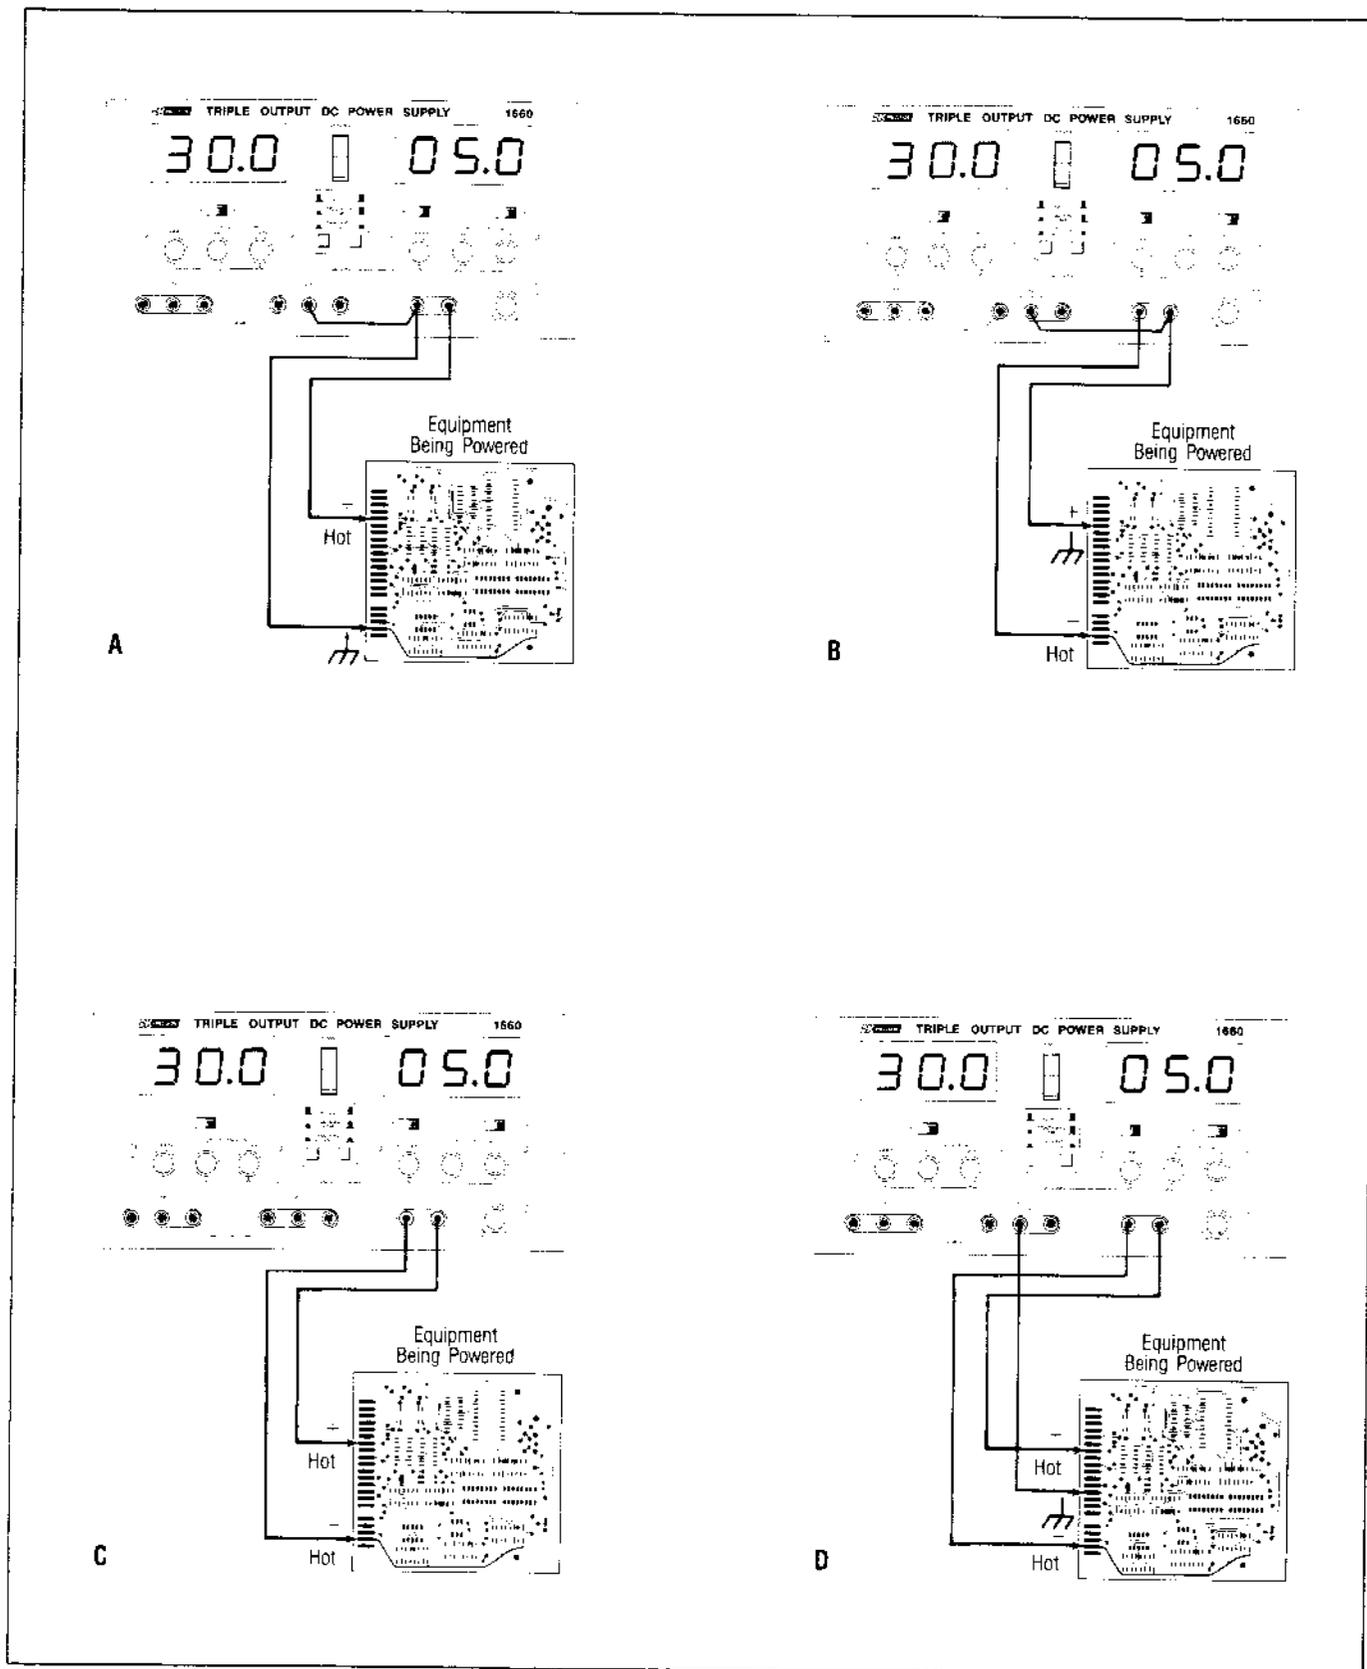

Fig. 10. Grounding Possibilities for 4-6.5 V Power Supply.
6. Fig. 10 illustrates the grounding possibilities of the the **4-6.5 V** supply.